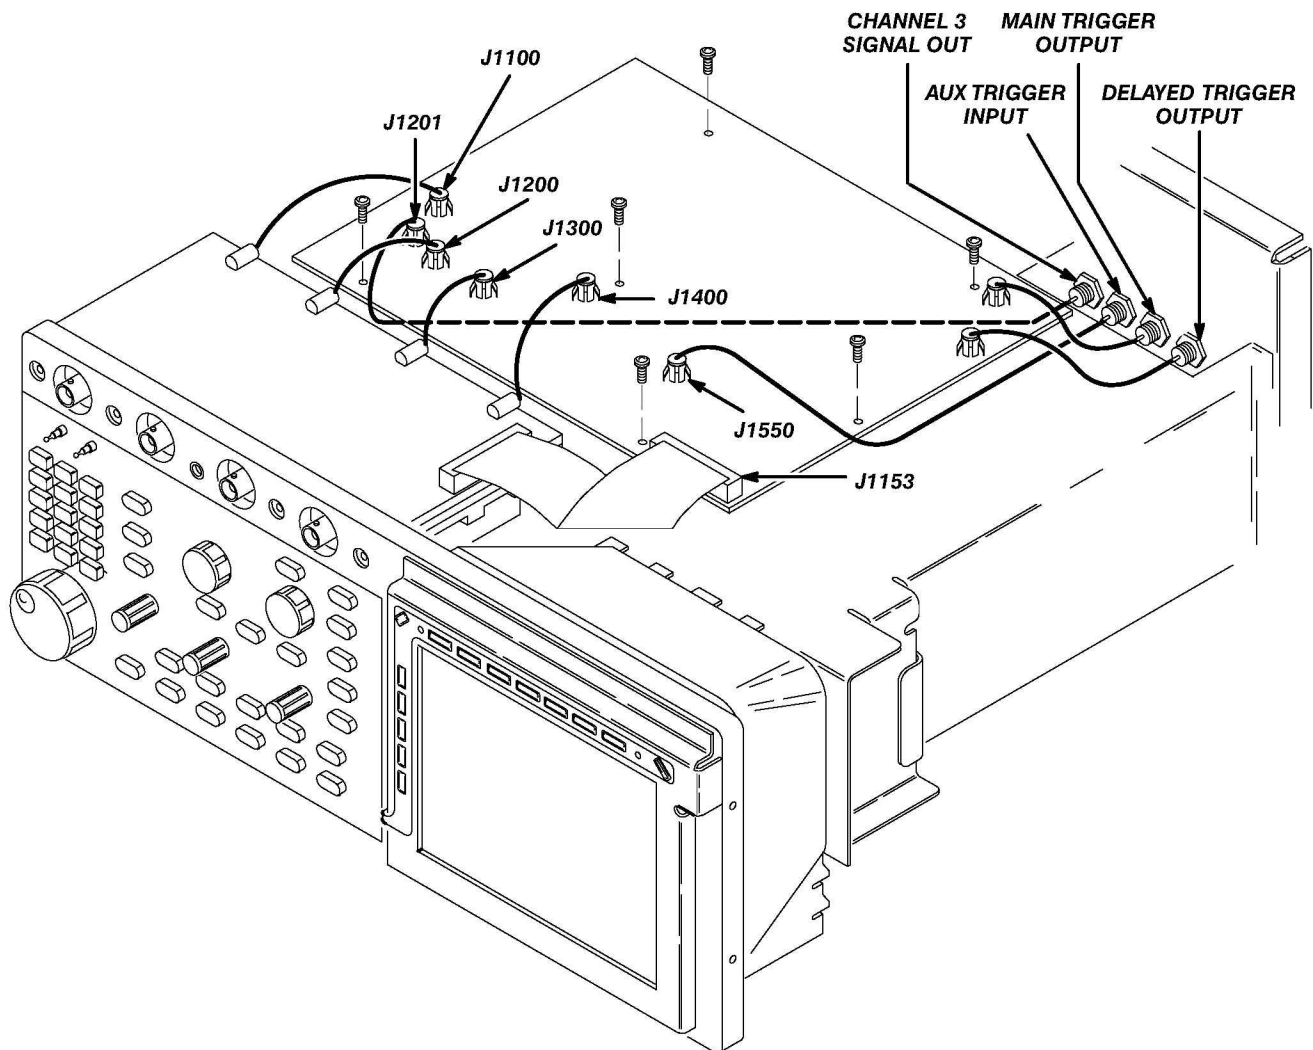

Figure 6-21: A10 Acquisition Board Removal
3. *Remove the Acquisition Board:* Use Figure 6-21 as a guide.